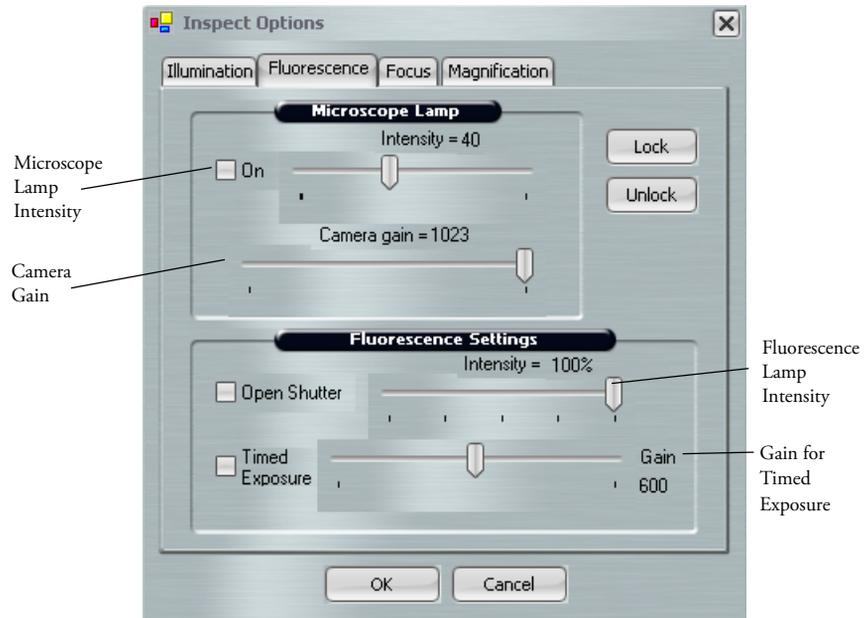

Figure 5.9: Fluorescence Tab in Inspect Options dialog box
- 3 Ensure that the Microscope Lamp Intensity is turned off (unchecked). (See Figure 5.9.)
- a Set Fluorescence Lamp Intensity to 100% (see Figure 5.9).
- b Set Camera Gain to the maximum setting (see Figure 5.9).
- e If needed, check Microscope Lamp on (see Figure 5.9) and adjust the intensity to allow minimal brightfield light.
- Camera Gain (see Figure 5.9)—Adjust to the lowest possible value to still allow sufficient signal.
- Fluorescence lamp intensity (see Figure 5.9)—Lower the intensity if the live image displays with very bright fluorescence intensity.
- 1** Set Camera Gain (see Figure 5.9) for optimal fluorescence image.
- 2** Adjust Microscope Lamp Intensity (see Figure 5.9). A good starting point for the Microscope Lamp Intensity setting is 30. Adjust from this point to get enough light as needed.
- The Gain setting found next to Timed Exposure (see Figure 5.9) is used only with the Timed Exposure feature. Adjustment of this setting outside of Timed Exposure will not result in a change. For more information, see “Working with Fluorescence Timed Exposure” on page 35.
- 1** Tap Timed Exposure to work with a static image rather than the main image. (See Figure 5.9.)